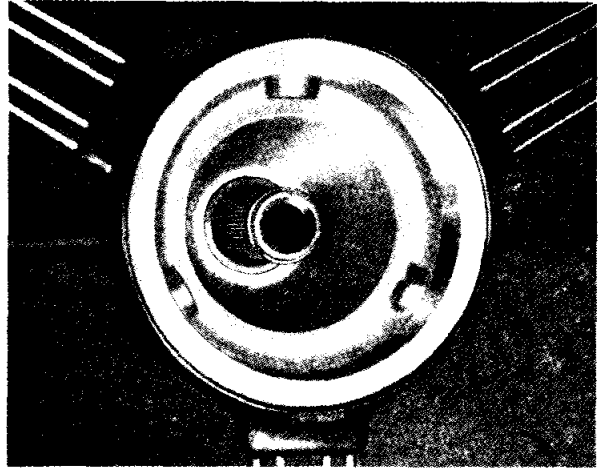

Fig. 16 The circlip in position on the inner column of the steering unit.
The steering wheel is the three equi-distance spoke type and is a slide fit on the splines of the inner column, it is held at its maximum point of extension by a circlip fitted in an annular recess machined at the top of the splines. (See Fig. 16.)
- (e) Push the wheel down to its fullest extent and tighten locking sleeve. This will uncover an annular groove in the upper end of the inner column. The circlip can now be fitted (Fig. 16).